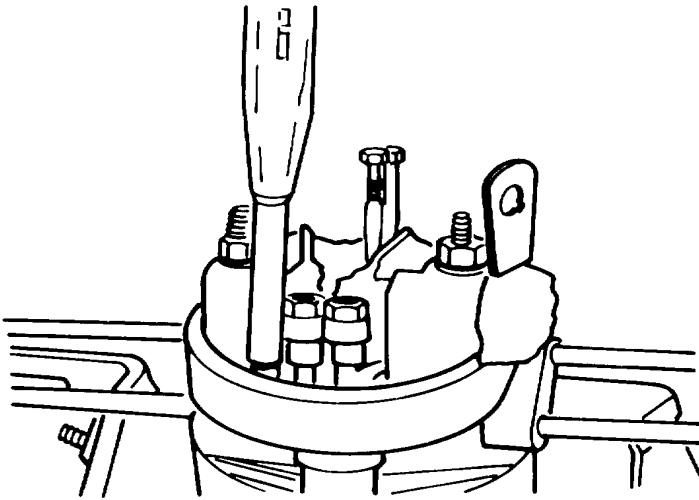

Figure A-8. Cylinder Head
i. **Cylinder Head.** With an 8mm nut driver, remove the push rod tube retaining spring. (Figure A-8)